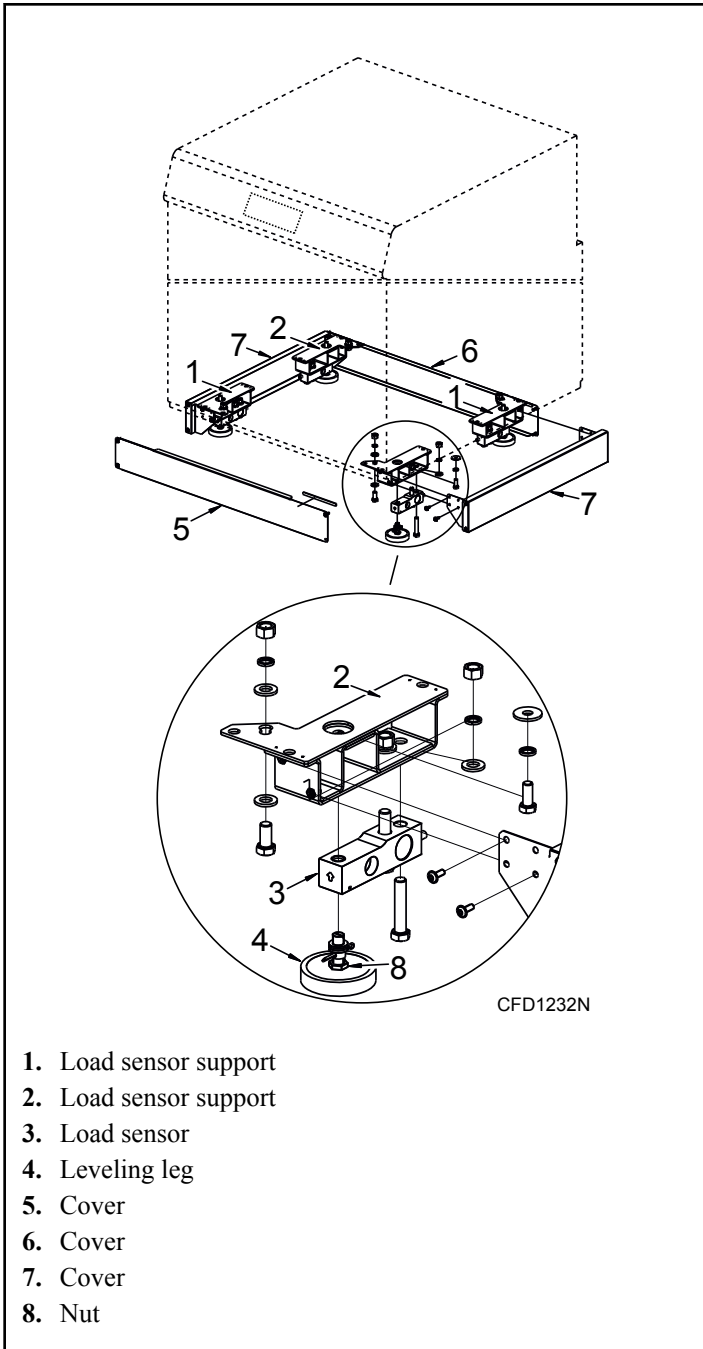

Figure 19
2. Install two left load sensor supports and two right load sensor supports to the machine frame. Refer to *Figure 19*.
11. Install the covers. Refer to *Figure 19*.